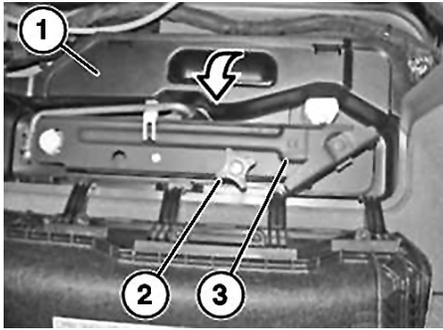

Fig. 3 Jack removal
5. Remove screw (2), Fig. 3.
6. Remove vehicle jack (3), Fig. 3.
7. Fold back battery cover (1) in direction of arrow, Fig. 3.
9. Fold back battery cover (1), Fig. 3.